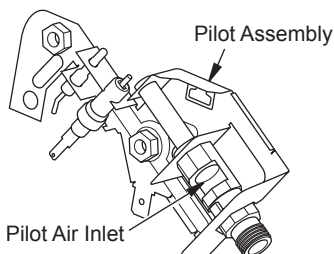

Figure 34 - Pilot Air Inlet
- Clean the pilot assembly also. A yellow tip on the pilot flame indicates dust and dirt in the pilot assembly. There is a small pilot air inlet about two inches from where the pilot flame comes out of the pilot assembly (see Figure 34). With the unit off, lightly blow air through the air inlet. You may blow through a drinking straw if compressed air is not available.